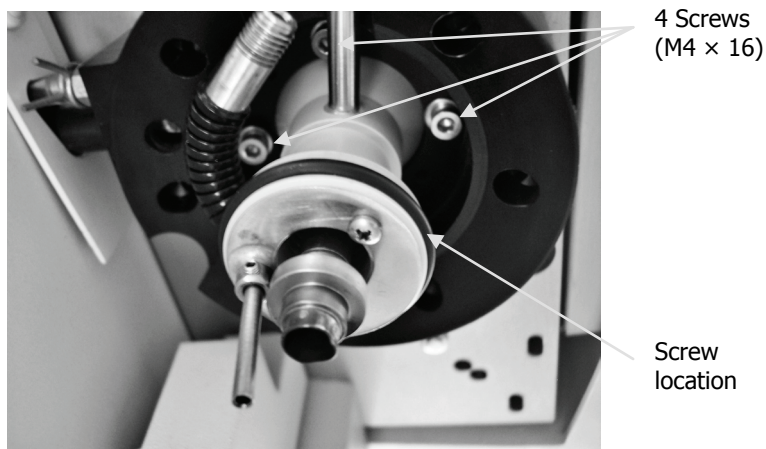

Figure 52 Upper furnace replacement fixed to ionizer
7. Slide the upper furnace replacement up over the central tube of the Pyris 1 TGA and attach it to the underside of the ionizer using the four screws provided (Figure 52).